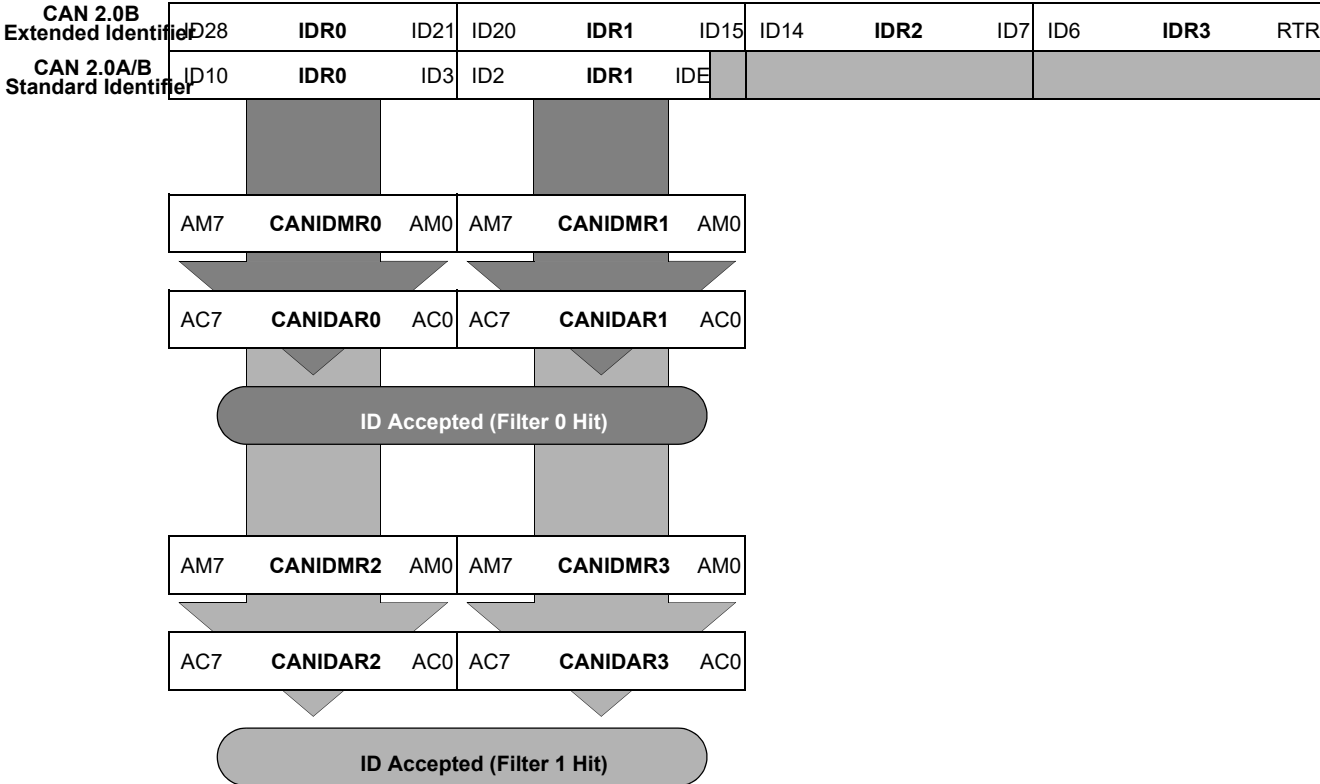

Figure 18-41. 16-bit Maskable Identifier Acceptance Filters
- Figure 18-41 shows how the first 32-bit filter bank (CANIDAR0–CANIDAR3, CANIDMR0–CANIDMR3) produces filter 0 and 1 hits. Similarly, the second filter bank (CANIDAR4–CANIDAR7, CANIDMR4–CANIDMR7) produces filter 2 and 3 hits.